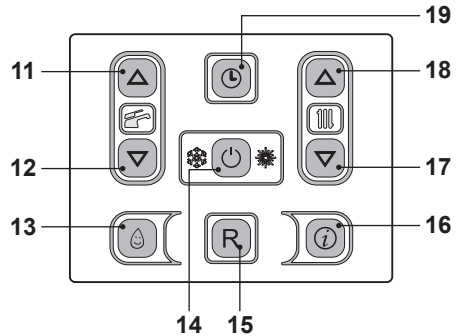

Fig. 7.8
- Press the 14 key for 2 seconds until both  and  symbols appear on the display Fig. 7.8.
- Switch off the boiler by pressing the 14 (Fig. 7.8) key for 2 seconds until the  symbol appears on the LCD display (Fig. 7.7).
Press the reset key on the boiler control panel 15 (Fig. 7.8) to reset its functioning.